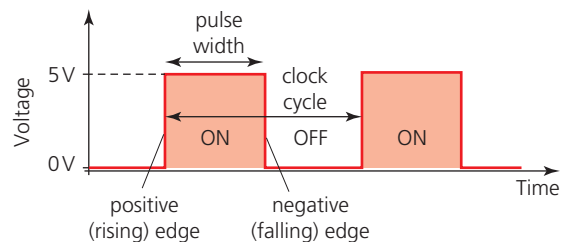
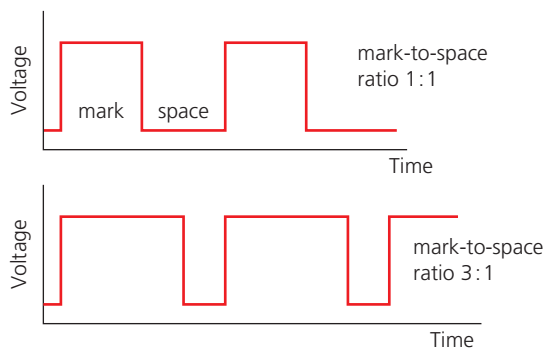

Figure 24 Clock pulses
Figure 25 Clock pulses with different mark-to-space ratios
An **astable** is an oscillator circuit that produces a continuous output of regular ON–OFF pulses that can be used as clock pulses. Sequential logic circuits (see Electronics section 4.2) use clock pulses for synchronisation – they depend on the frequency and width of an input clock pulse to activate their switching action. Clock pulses are continuous and are rectangular in shape, going from a low (OFF), normally 0V, to a high (ON), usually 5V, with constant period, as shown in Figure 24.
The time for which the pulse is high or ON – the pulse width – is sometimes called the ‘mark’, and the time for which the pulse is low or OFF is then called the ‘space’. In Figure 24 the pulse is ON for the same time as it is OFF, but in general the mark and the space do not need to be of equal duration (see Figure 25). We define the **mark-to-space ratio** as
So, for the clock pulses in Figure 25, when the mark-to-space ratio is 1:1, the duty cycle is 50%, and when the mark-to-space ratio is 3:1, the duty cycle is $\frac{3}{4} \times 100\% = 75\%$.